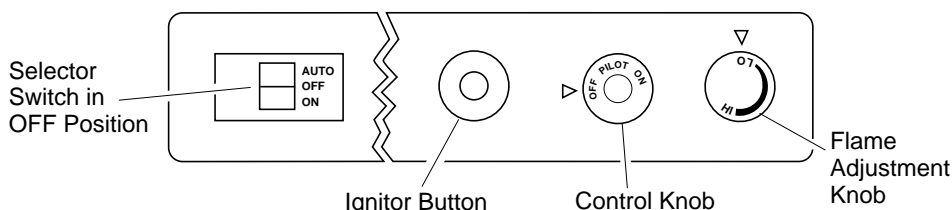

Figure 36 - Control Knob and Ignitor Button Location (Shown as Supplied, No Control Options)
5. Wait five (5) minutes to clear out any gas. Then smell for gas, including near the floor. If you smell gas, **STOP!** Follow "B" in the safety information. If you don't smell gas, go to the next step.
6. Press in and turn control knob counterclockwise ↺ to the PILOT position. Press in control knob for five (5) seconds (see Figure 36).